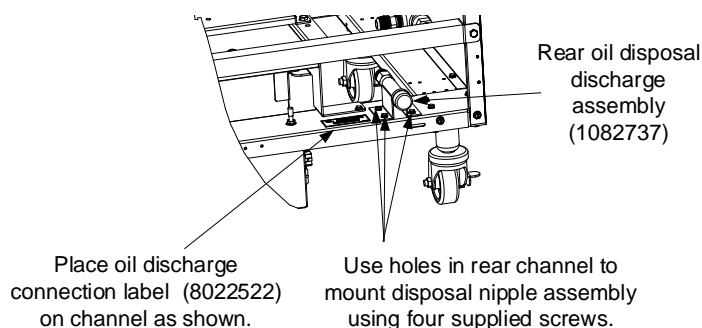

Figure 1: Attach the oil discharge nipple assembly and label.
4. Use existing holes and install the enclosed oil disposal discharge nipple assembly (1082737SP) with provided screws. See Figure 1. (**Note:** It may be necessary to drill four 5/32" pilot holes to attach the screws.)
5. Place oil discharge label (8022522) next to the oil discharge connection shown in Figure 1.